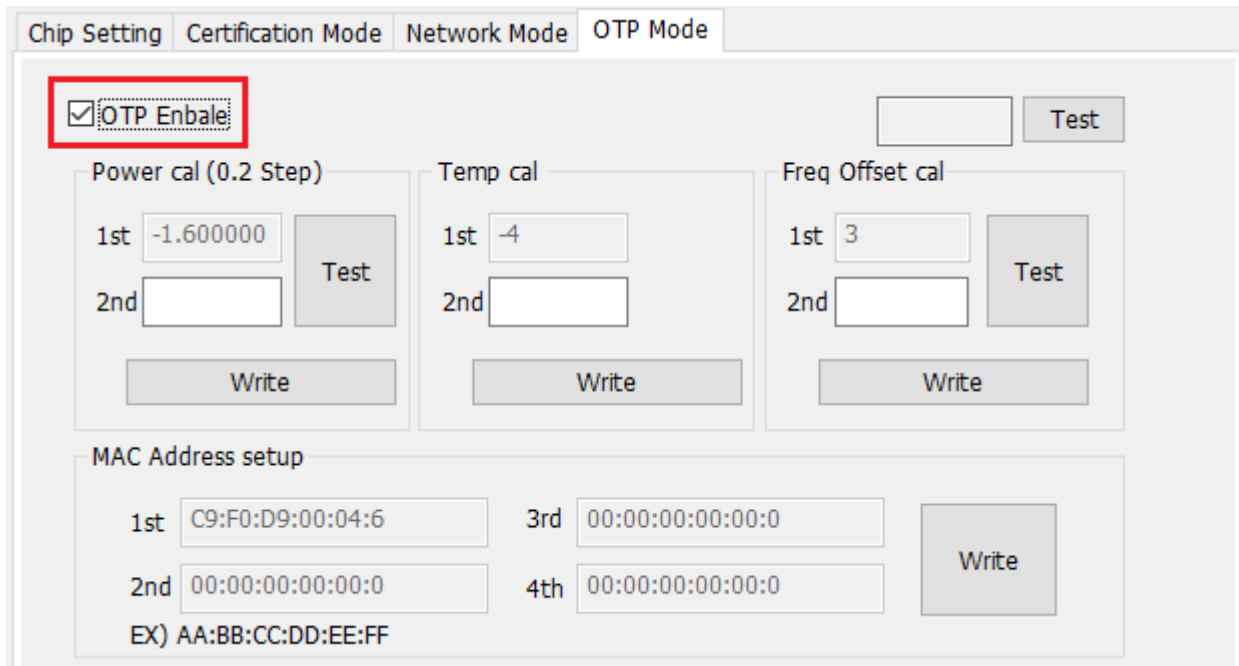

Figure 40: OTP Mode
- The current OTP data is as shown in Figure 40.